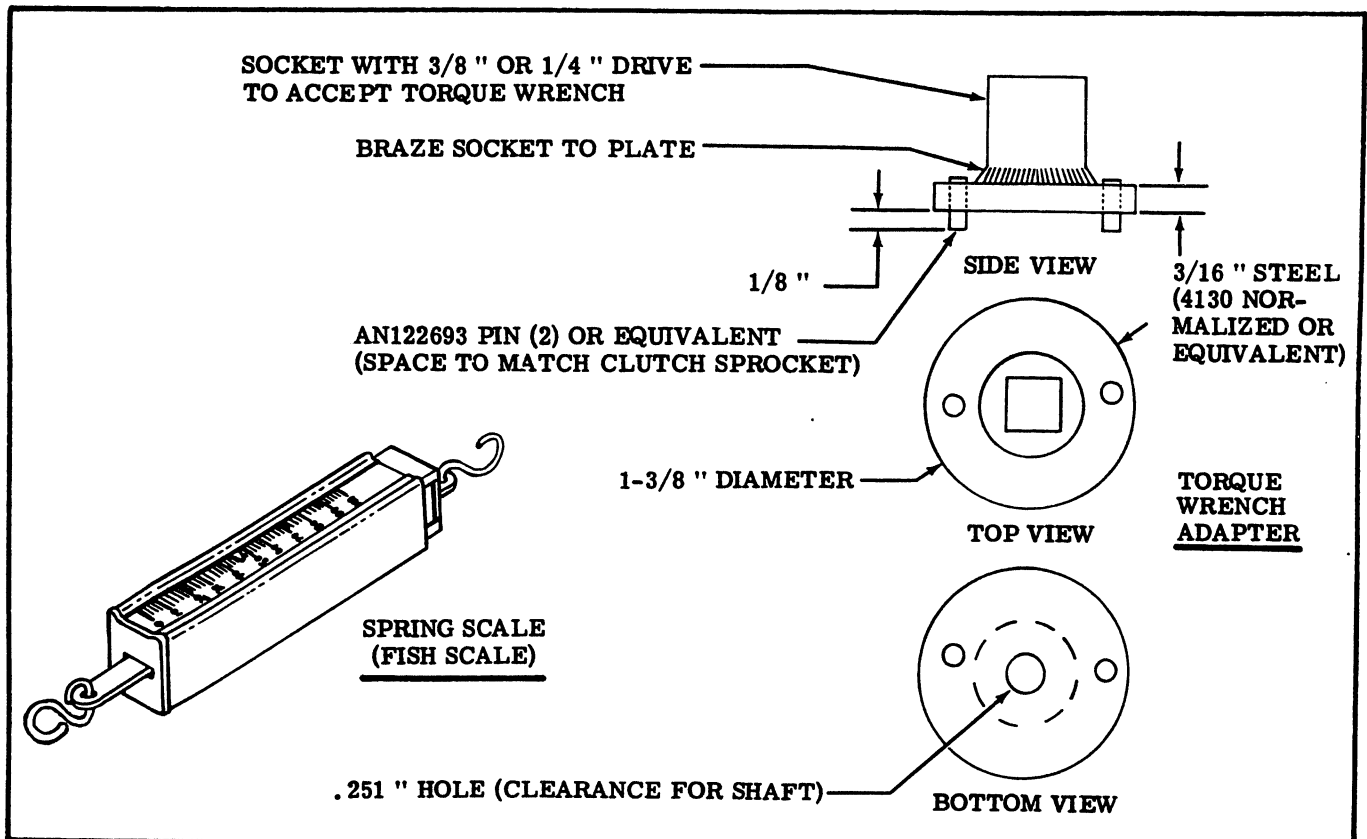

Figure 8-11. Electric Trim Servo Adjustment Tools
2. Remove forward housing cover (4) to gain access to clutch assembly.
3. Loosen outside locking spanner nut (18) so that tension can be adjusted with inside spanner nut.
4. Connect spring scale (fish scale) to forward end of cable (29). (Refer to figure 8-11 for spring scale.)
6. Hold opposite end of cable (29) to prevent slippage of cable on drum (21).
7. Pull cable (29) with spring scale until clutch slips, noting pounds required to slip clutch.
8. Adjust inside spanner nut (18) until clutch slips at 28 to 32 lbs tension. Tighten outside locking
1. Loosen outside locking spanner nut (18) so that tension can be adjusted with inside spanner nut.
2. Clamp clutch assembly in a vise at the drum (21) with sprocket (3) in the UP position.
4. Connect torque wrench (lb-in) and adapter over shaft on sprocket (3) so the pins of the adapter engage between teeth of sprocket. (Refer to figure 8-11 for adapter.)
6. Adjust inside spanner nut (18) until clutch slips at 25±3 lb-in. Tighten outside locking spanner nut against inside nut.